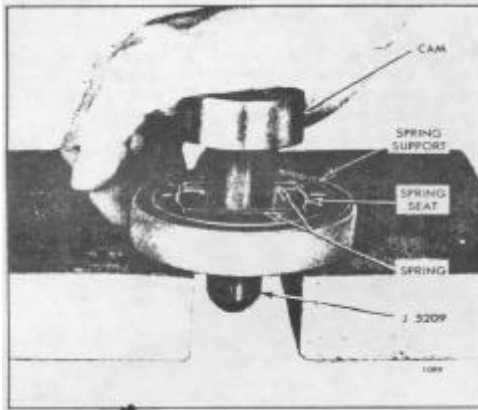

Fig. 12. - Inserting Cam in Blower Drive Support
- a. Place the drive spring support on two blocks of wood (Fig. 12)